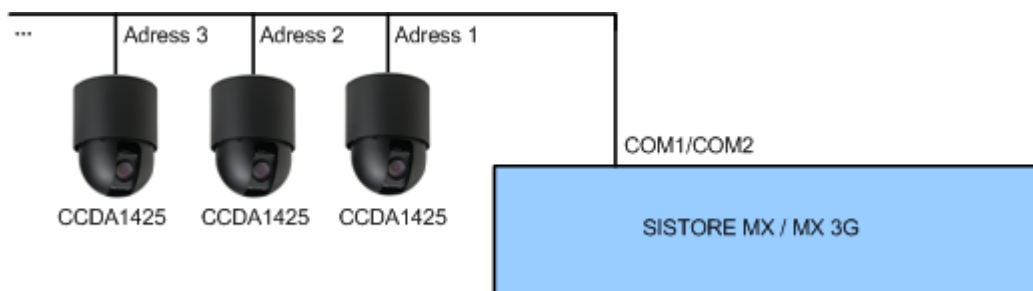

Fig. 17 CCDA1425 dome camera – system overview
1. Connect the dome cameras to the SISTORE (see Fig. 17). Further information on this can be found in the instruction manual for the dome camera.